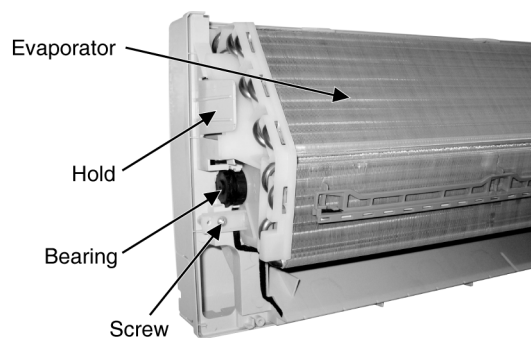

Fig. 11
- Remove the Bearing. (Fig. 11)
- Remove the screw at the left of the Evaporator. (Fig. 11)
- Press the Hold to the left side then you can release the Evaporator. (Fig. 11)